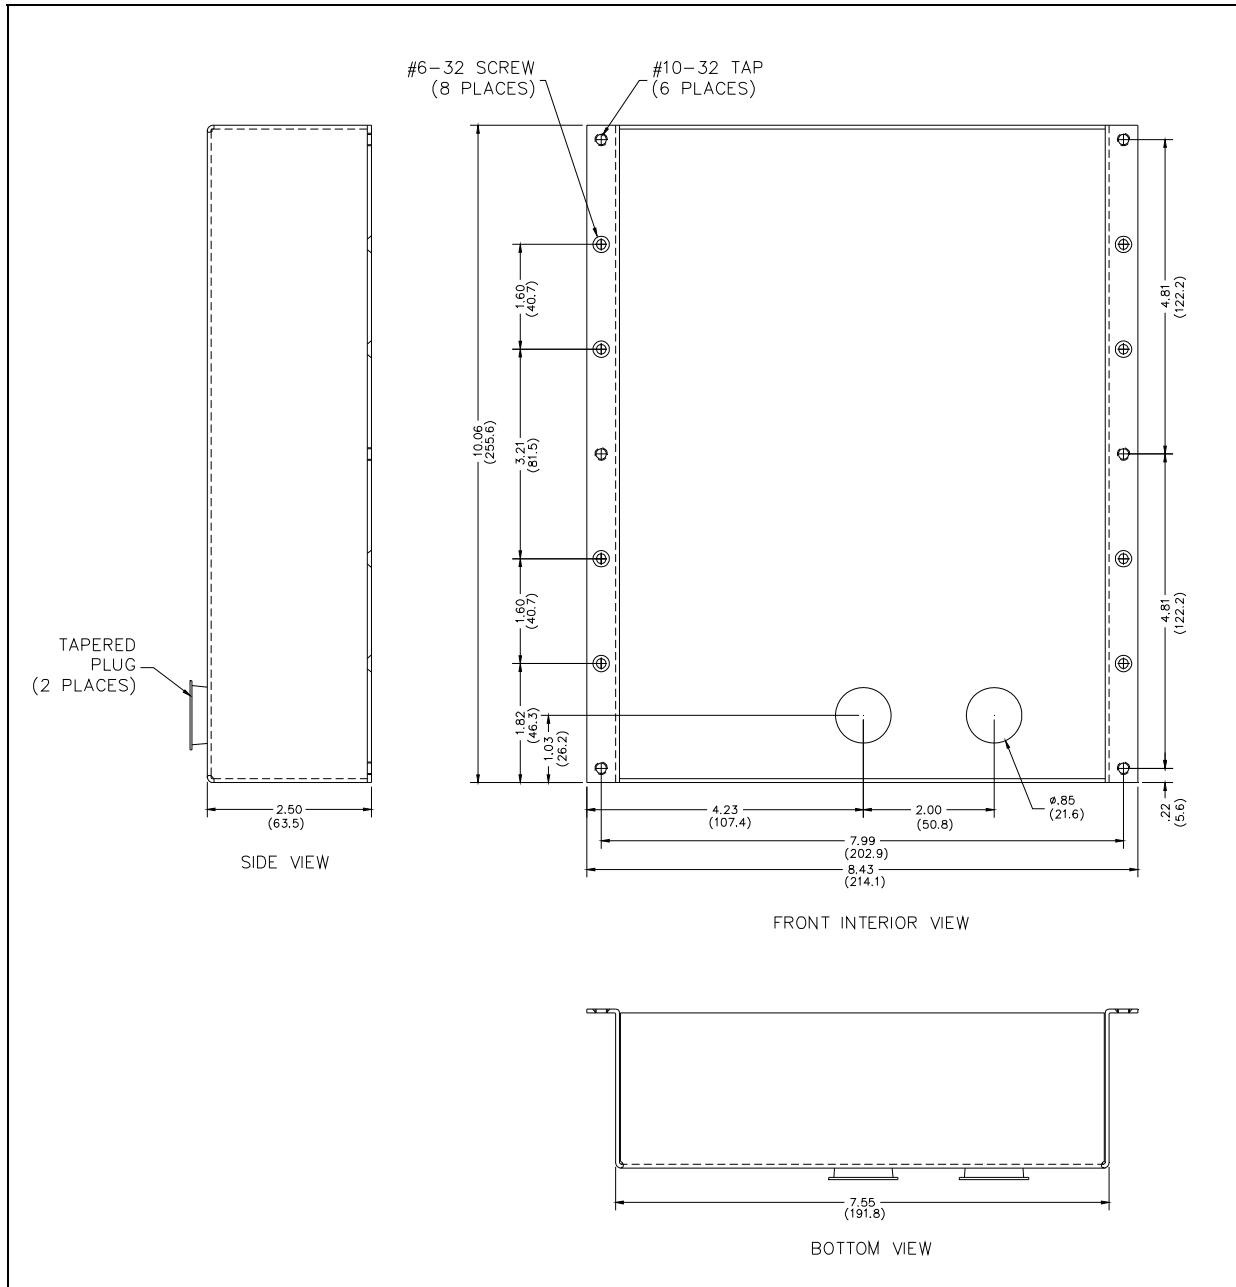

Figure 10. Model 397-001CAM and 398-001CAM Mounting Details
1. Mount the back box to the structure using appropriate hardware (see Figure 10 for the cutout dimensions).
5. Connect the telephone's modular plug to a USOC RJ11 or CA11A (Canada) modular connector or (if applicable) the telephone line suppressor (see Figure 10).